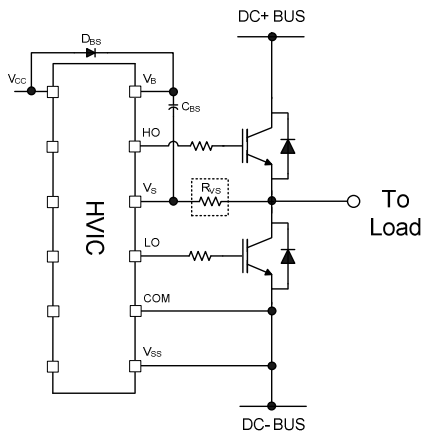
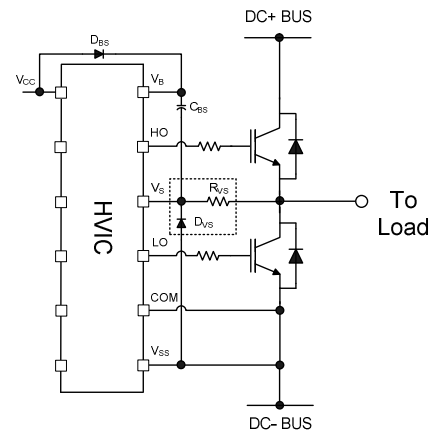

Figure 18:  $V_S$  resistor
Figure 19:  $V_S$  clamping diode
**Routing and Placement:** Power stage PCB parasitic elements can contribute to large negative voltage transients at the switch node; it is recommended to limit the phase voltage negative transients. In order to avoid such conditions, it is recommended to 1) minimize the high-side emitter to low-side collector distance, and 2) minimize the low-side emitter to negative bus rail stray inductance. However, where negative  $V_S$  spikes remain excessive, further steps may be taken to reduce the spike. This includes placing a resistor (5  $\text{H}$  or less) between the  $V_S$  pin and the switch node (see Figure 18), and in some cases using a clamping diode between COM and  $V_S$  (see Figure 19). See DT04-4 at [www.irf.com](http://www.irf.com) for more detailed information.